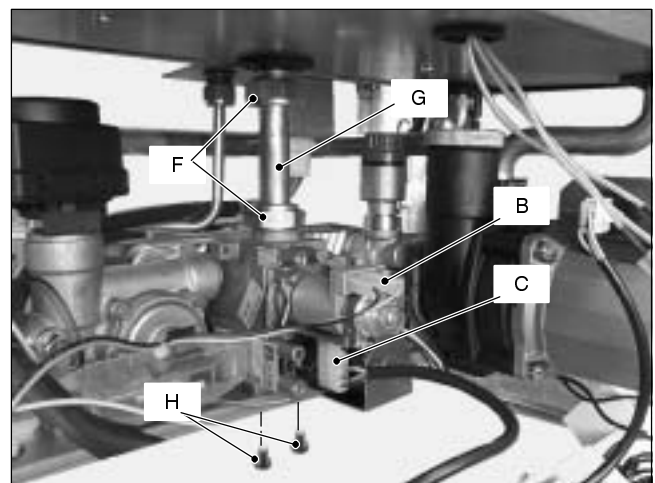

Fig. 48
- 2 Disconnect the connectors *B* (Fig. 48) from the modulating operator and measure the electrical resistance of the coil. Its electrical resistance value must be approx. 80 Ω^* .
- 2 Disconnect the electrical connector *C* (Fig. 48).
- 2 Disconnect the connectors *B* and *C* (Fig. 48).